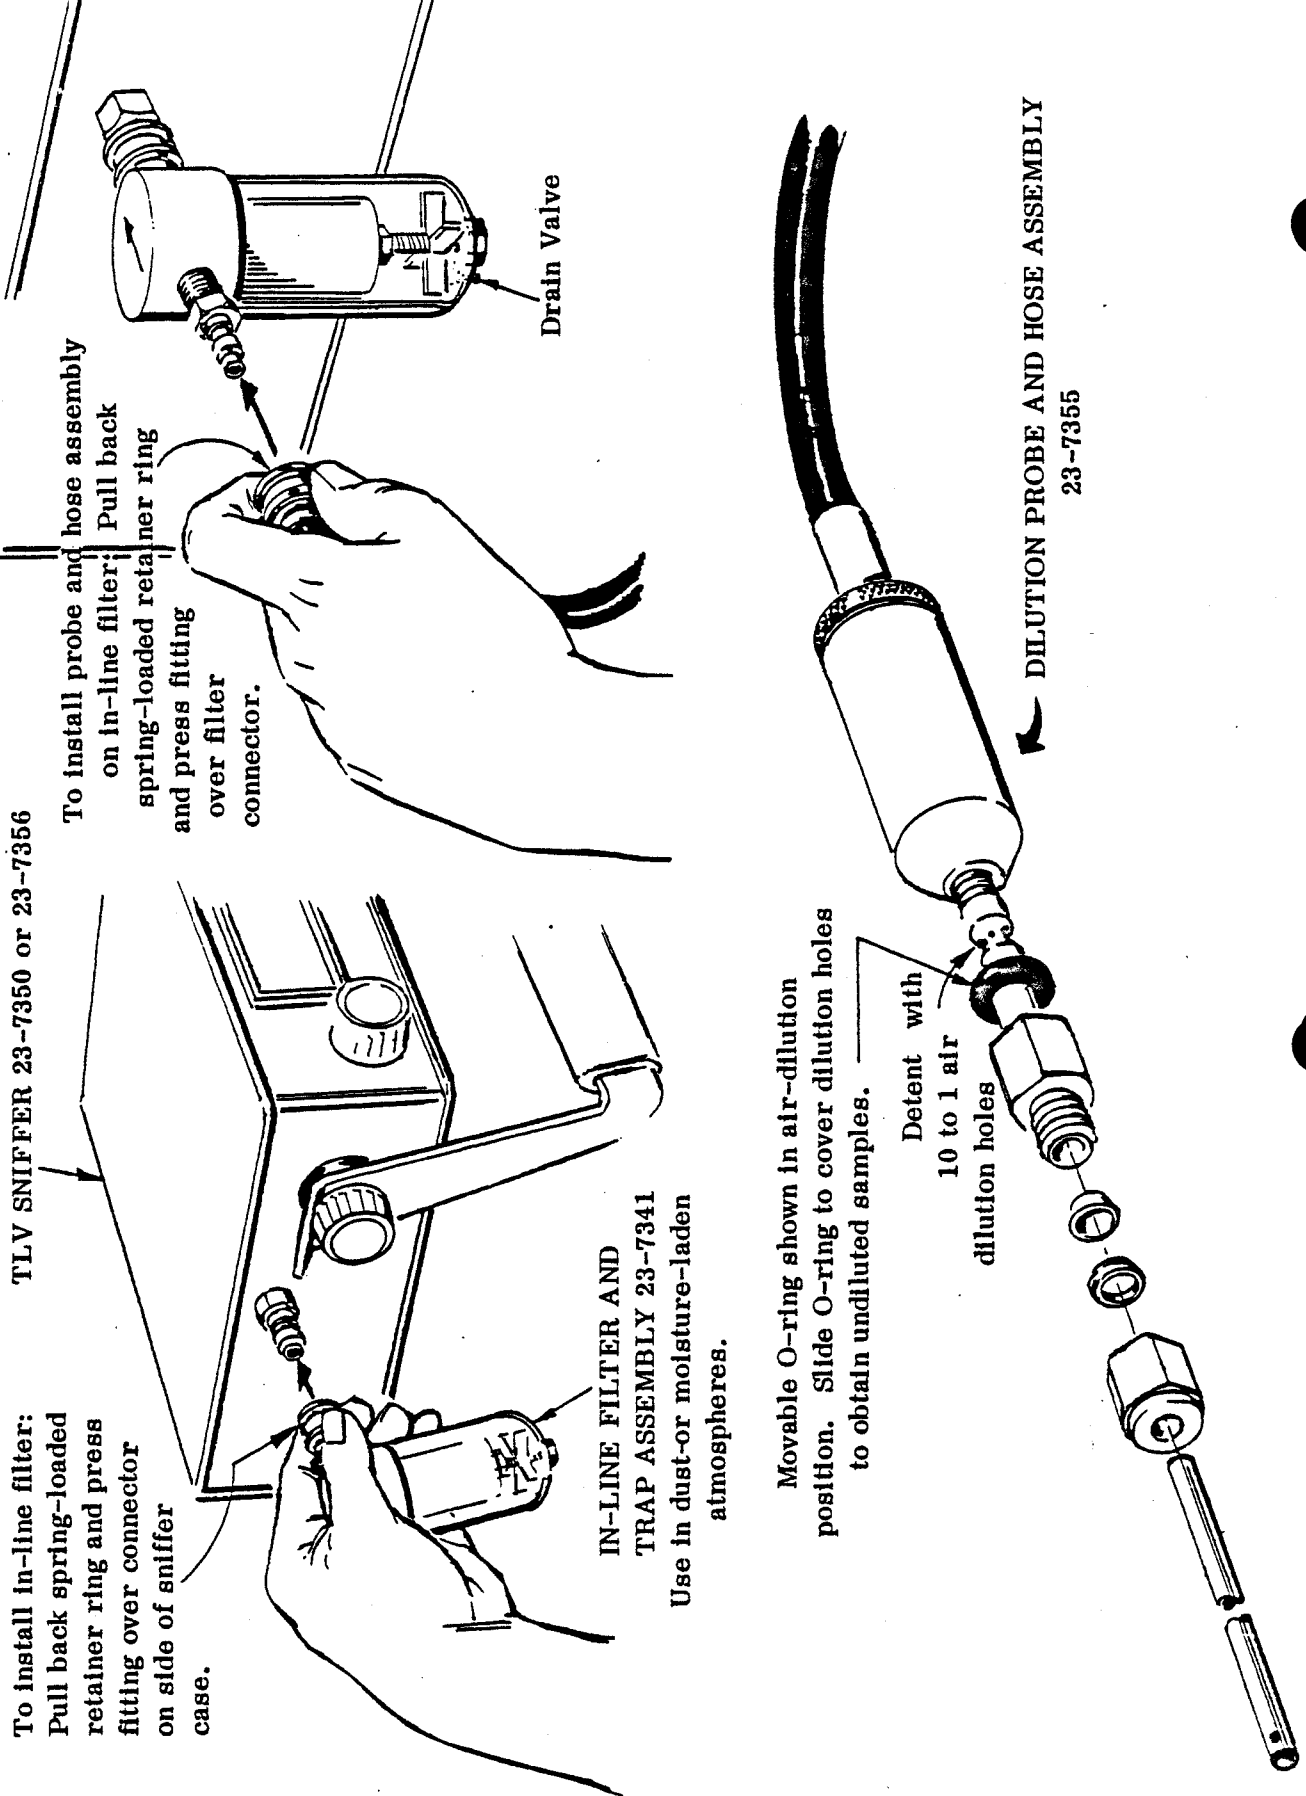

Figure 3-1. Use of Dilution Probe and Hose Assembly and In-line Filter and Trap Assembly.
7. For readings above 10,000 ppm: Replace probe assembly 0023-7243 with dilution probe 0023-7355 and slide dilution probe O-ring to expose dilution holes of probe (extends range 10X to read up to 100,000 ppm). See Figure 3-1. Add in-line filter and trap assembly if sampling in dust- or moisture-laden areas.